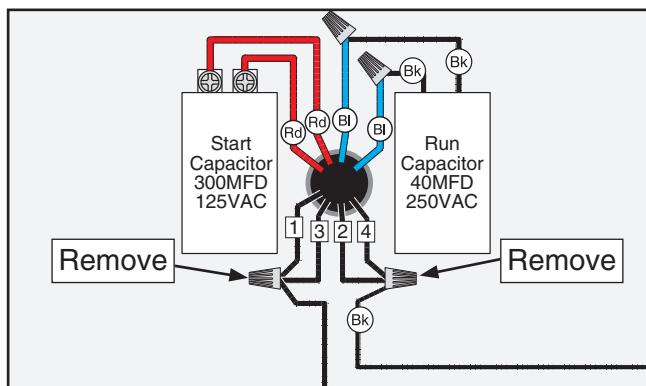

Figure 6. Motor wires at 110V.
4. Remove the wire nuts indicated in **Figure 6**.